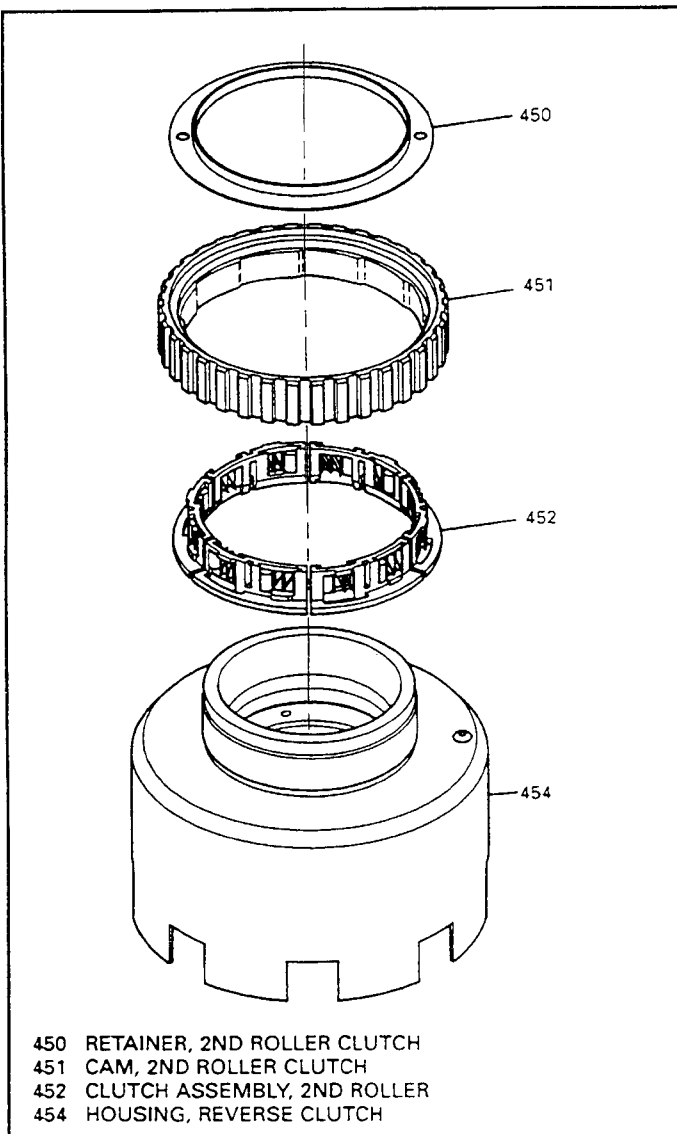

Figure 148
13. Inspect and replace parts as necessary as shown in Figure 148.
14. Install the 2nd roller clutch assembly (452) into the roller clutch cam (451) (See Figure 148).
15. Install the 2nd roller clutch assembly onto the reverse input housing with the flat side of the roller clutch cam facing down toward housing. Rotate the roller clutch clockwise to properly engage the rollers (See Figure 148).